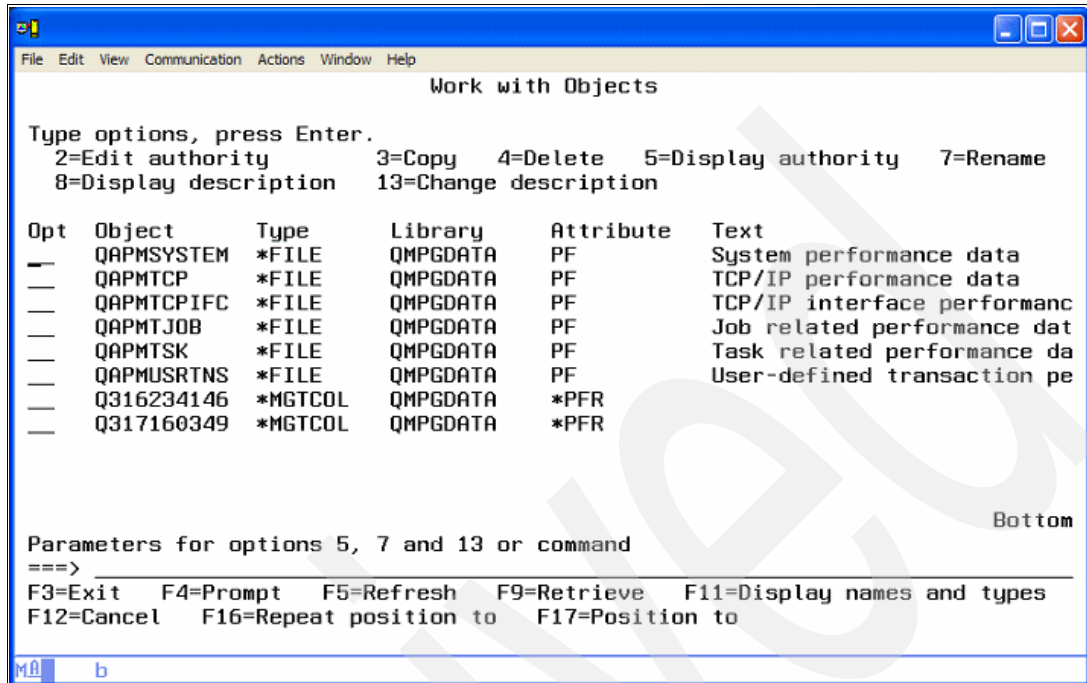

Figure A-13 Work with Objects panel
- After you locate the desired object, save and then either restore or send the object to the target system using FTP (Figure A-13).